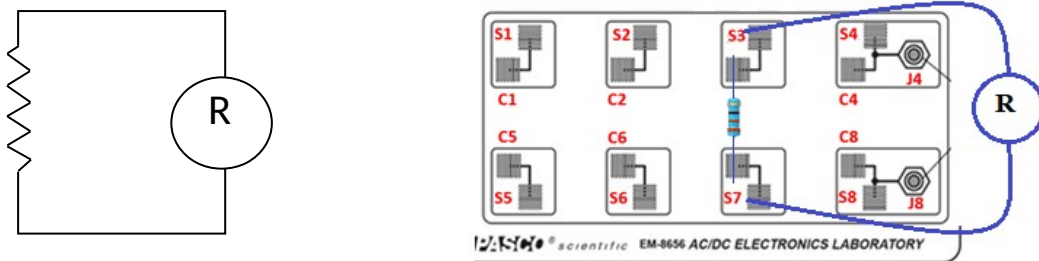

Figure 6: Resistance Measurement, Circuit Diagram and Setup on the AC/DC Box
A. Resistance Measurements (Figure 6)